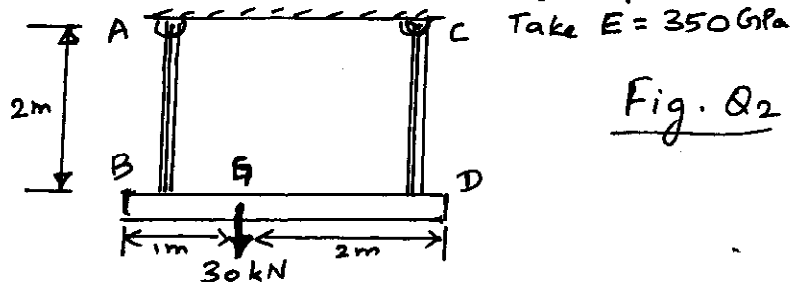

Fig. Q2
2. The assembly consists of two titanium rods and a rigid bar as shown in Fig.Q2. The cross sectional area of each titanium rod is 45mm^2 and that of horizontal rigid bar is 60mm^2 . If the vertical force of 30kN is applied at E, Determine the vertical displacement of point E.